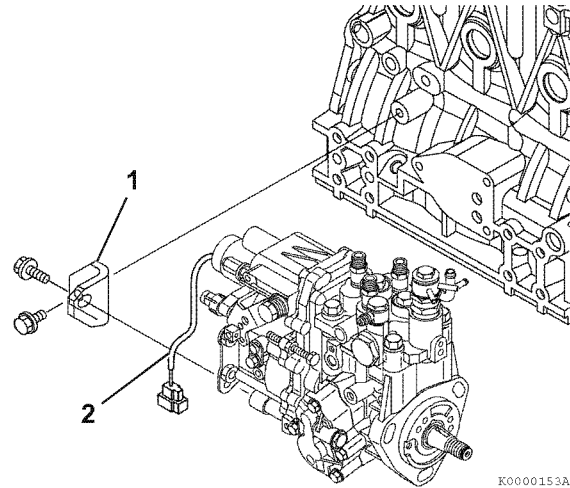

Figure 7-32
6. Reinstall the rear bracket(s) (1, **Figure 7-32**) to the fuel injection pump. Tighten the rear support bolts.
7. Reconnect the throttle linkage and the stop solenoid connector (2, **Figure 7-32**).